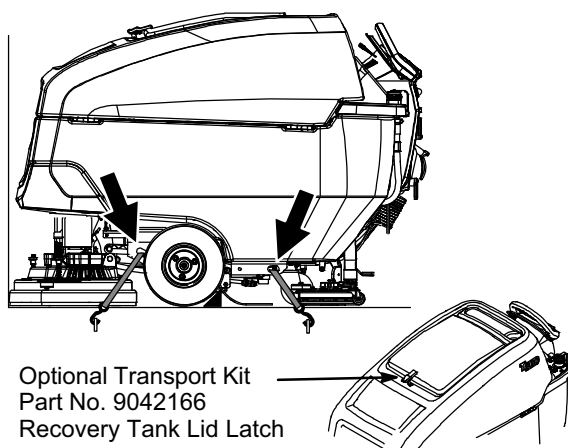

FIG. 147
4. Place a block behind each wheel (Figure 147).
5. Using tie-down straps, secure the machine using the four tie-down brackets located on the machine frame (Figure 147). It may be necessary to install tie-down brackets to the floor of your trailer or truck.